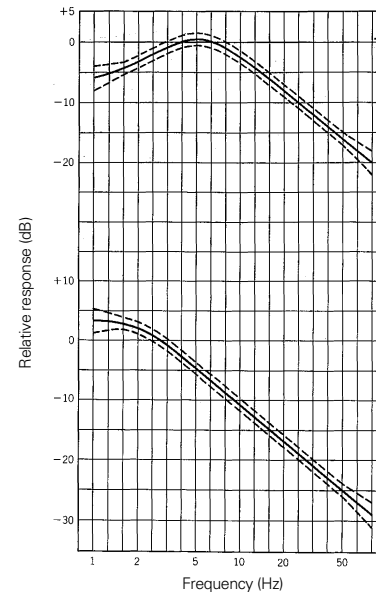

Fig. 1. Reference response and tolerance of vertical and horizontal characteristics of vibration level meter (JIS C 1510-1995)
(2) JIS C1510, which prescribes vibration level meters for measuring vibration from the view point of pollution, applies frequency correction to the vibration acceleration level as shown in Fig.1, and calls it the vibration level. The measurement method is defined in JIS Z 8735.